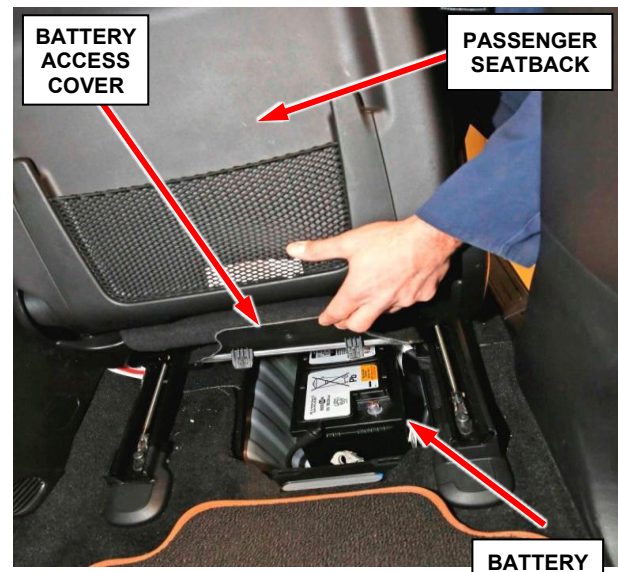

Figure 1 – Battery Access
6. Disconnect and isolate the battery negative cable by loosening the captive nut securing the terminal end to the post. Do no attempt to remove the captive nut as damage to the threads may occur (Figure 1).
31. Connect the negative battery cable 5 N·m (44 In. Lbs.) (Figure 1).
32. If equipped with an Intelligent Battery Sensor (IBS), connect the IBS connector (Figure 1).
33. Install the battery access cover located under the passenger front seat (Figure 1).